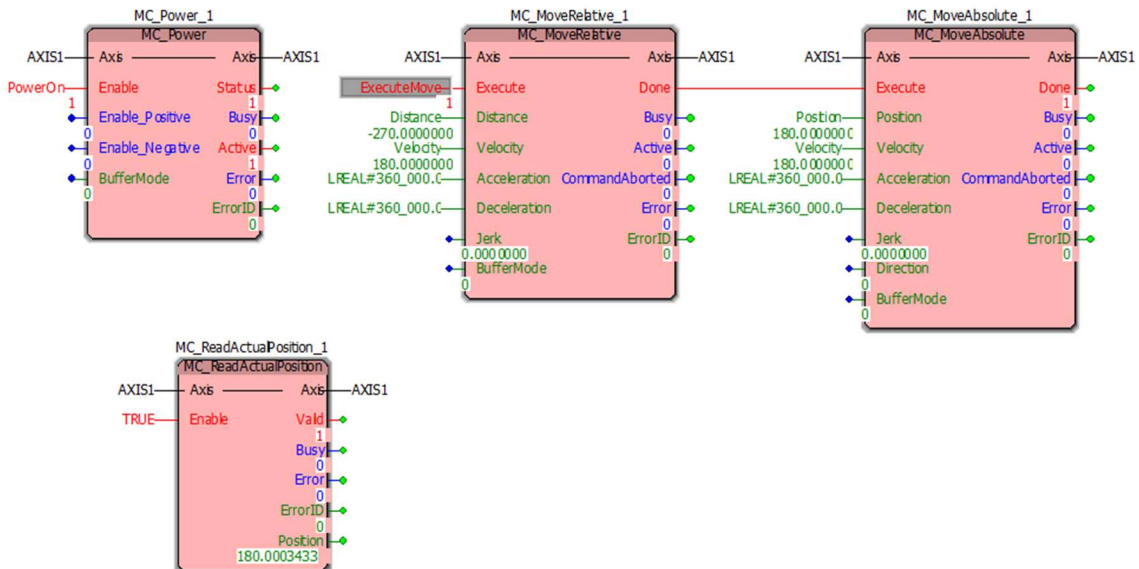

Figure 24: Step 3 Final Product in Debug Mode
- The final product should look like Figure 24 and when Executed correctly, it should move twice while reading the position.